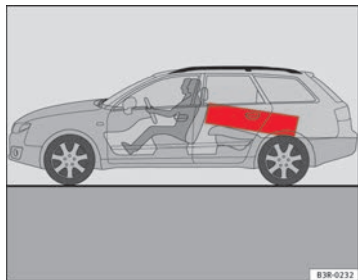

Fig. 116 Position heavy items as far forward as possible.
- Position heavy items as far forward as possible ⇒ fig. 116.